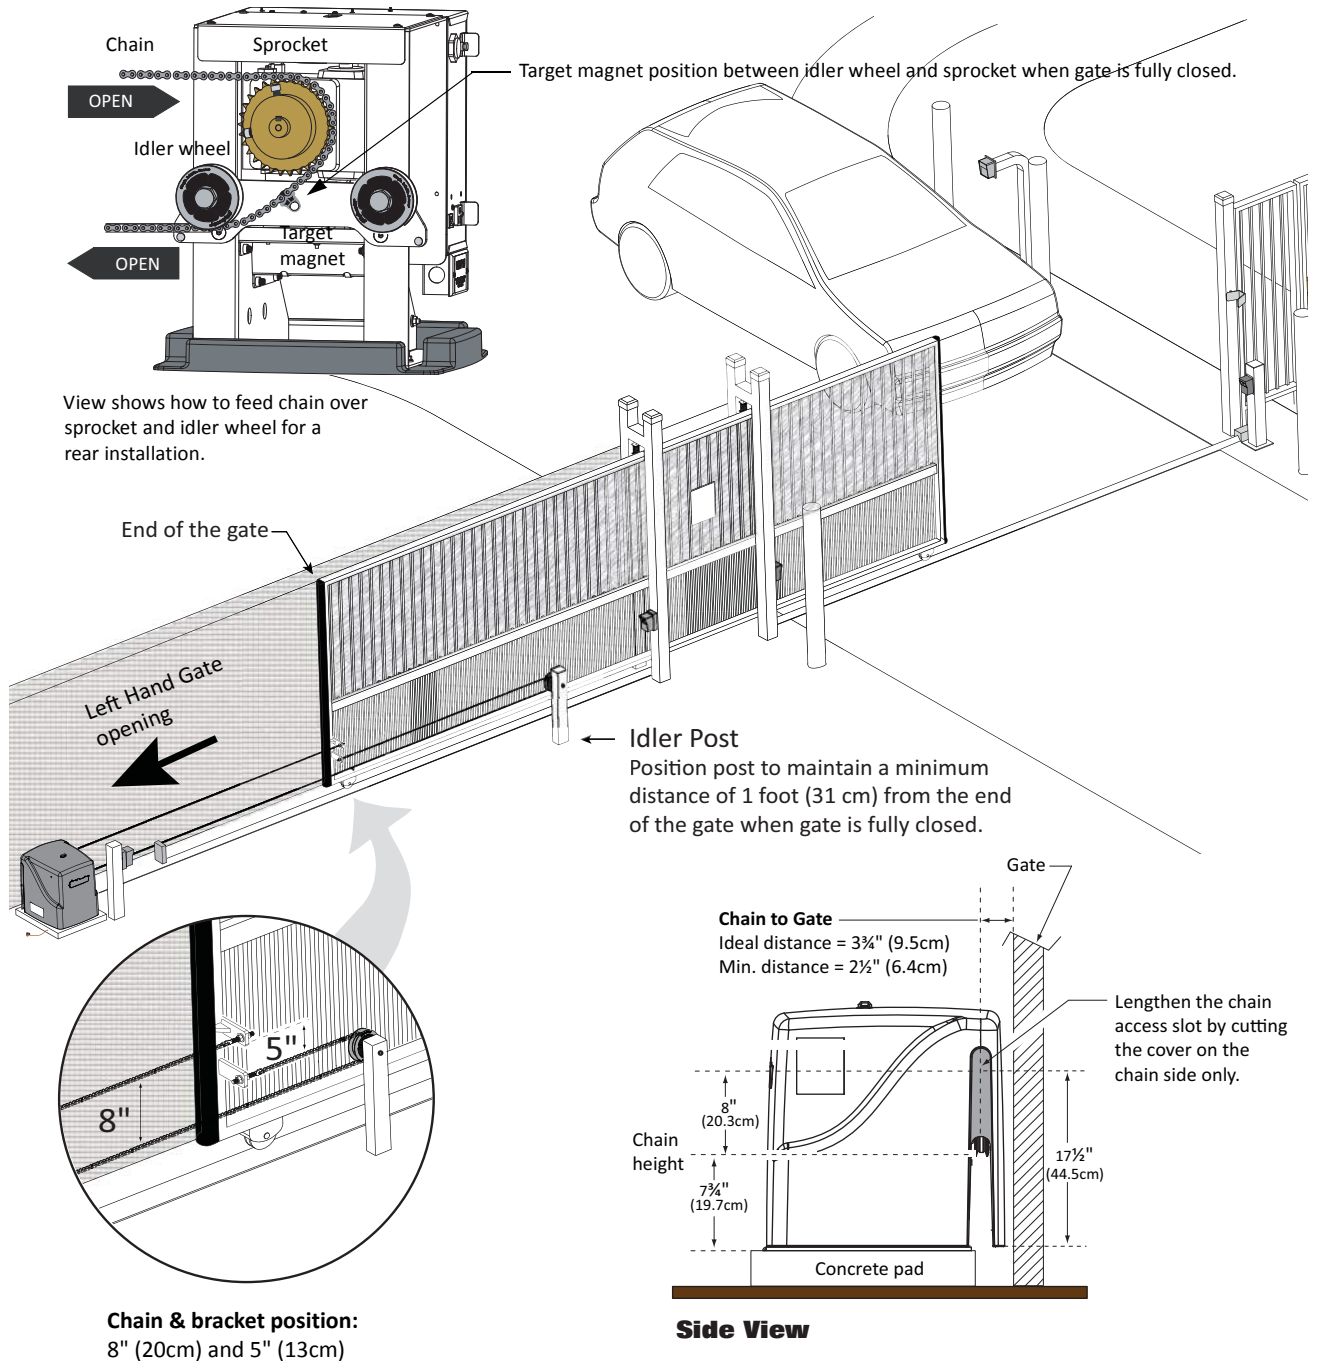

Figure 1-7.
2. For a rear installation, see Figure 1-7.